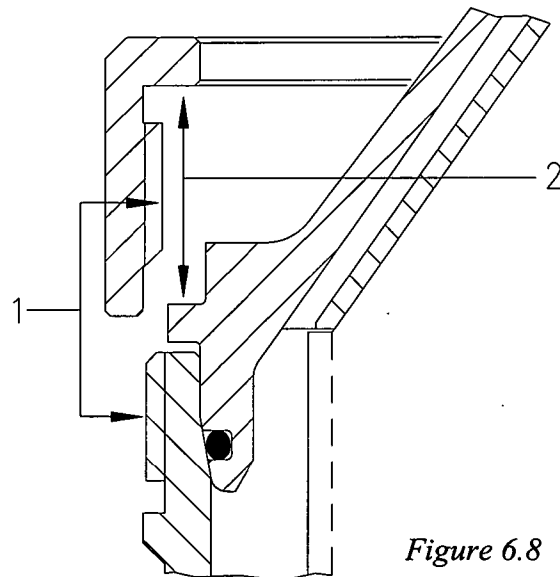

Figure 6.8
- 11) Smear antiscuff grease on threads of bowl body and big lock ring (fig. 6.8 - part 1) and on contact surfaces between bowl hood and big lock ring (fig. 6.8 - part 2).